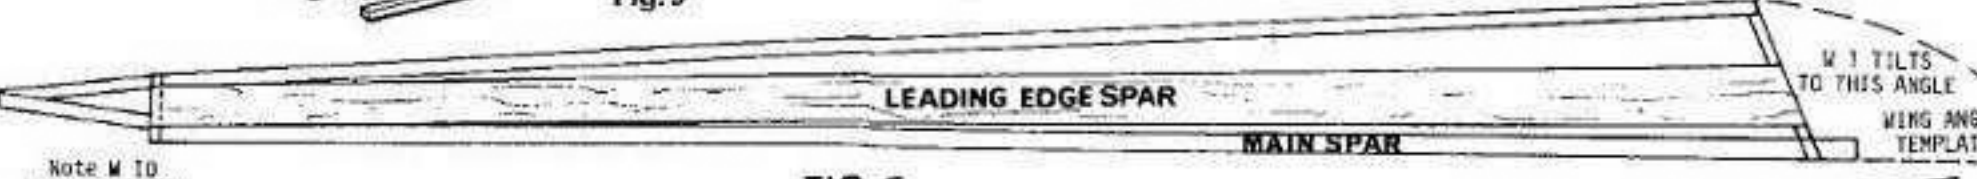

FIG. 9
STEP 10. Cut main spar to length and pin to plan (FIG. D) as indicated. Glue W 8 to it and trailing edge as in Fig. 9.